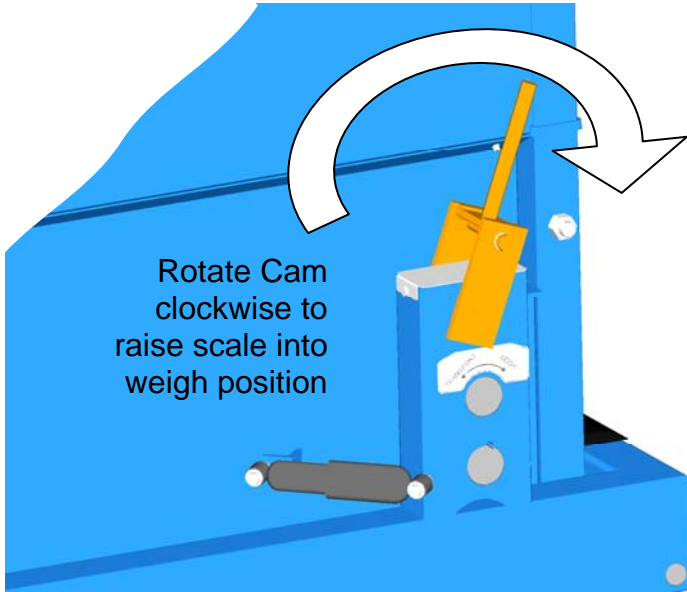

Figure 6 - Scale Lift
14. **USING BOTH HANDS**, raise the platform (rotate cam handle clockwise) to enable the scale (see **Figure 6**).